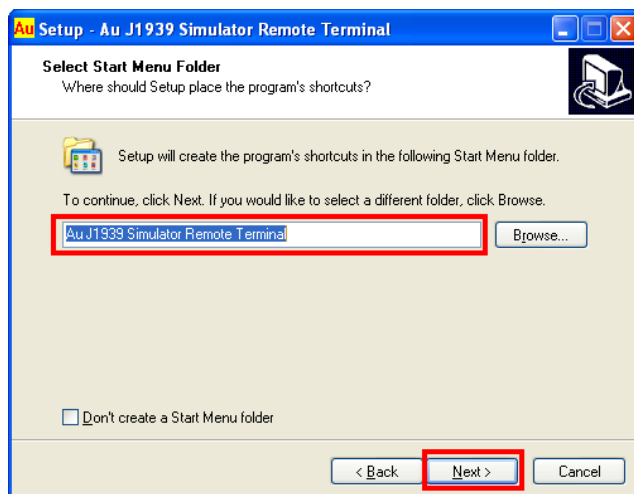

Figure A-6
6. “Select Start Menu Folder” window pop up, use the default folder and click “Next” to continue (figure A-6).